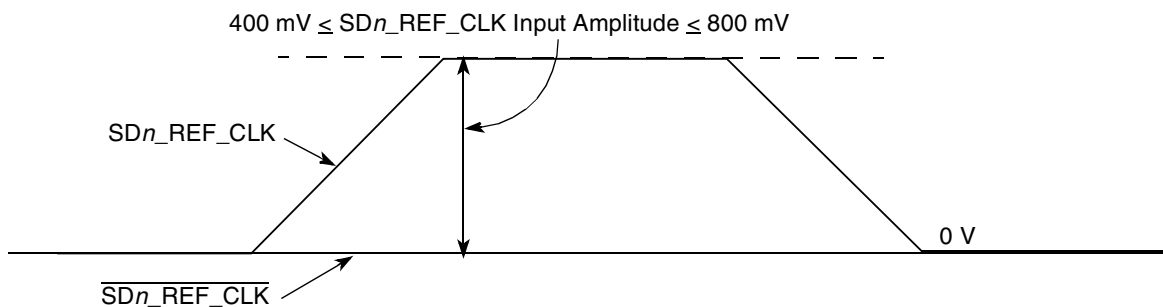

Figure 33. Single-Ended Reference Clock Input DC Requirements
- The $\overline{SDn_REF_CLK}$ input average voltage must be between 200 and 400 mV. Figure 33 shows the SerDes reference clock input requirement for single-ended signaling mode.